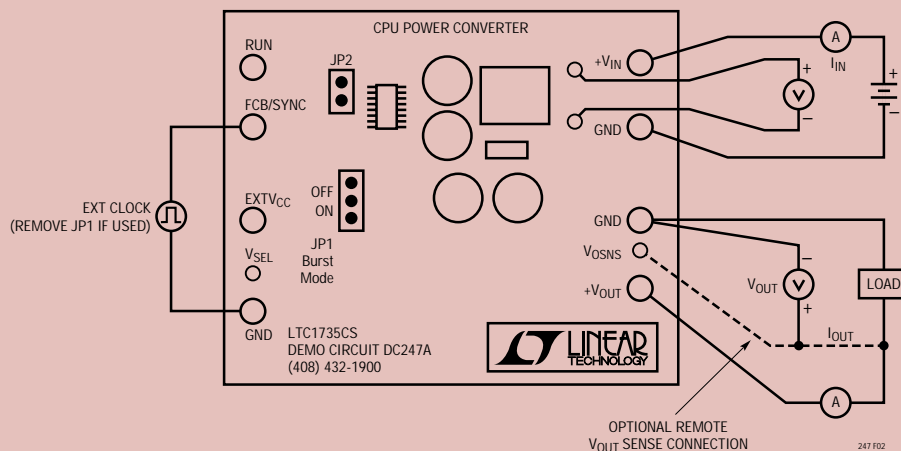

Figure 2. Proper Measurement Setup
- Refer to Figure 2 for proper connection of monitoring and measurement equipment.
to Figure 2 for the proper monitoring equipment configuration.